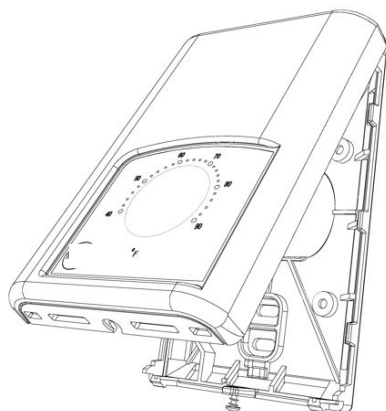

Figure 1: LN Series Sensor
2. Pull the bottom side of thermostat to open (Figure 1).